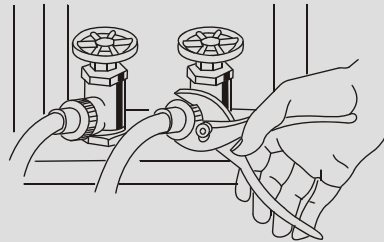

Figure 2
2. Respectively attach the water inlet hoses to the hot water faucet and the cold water faucet. Using pliers, tighten the coupling . (As figure 2)